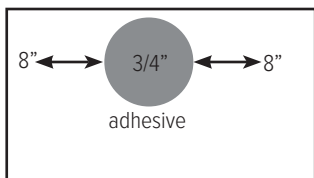

Figure 2.3.1
2.3.1 Apply adhesive on corner reveals as shown in Figure 2.3.1.